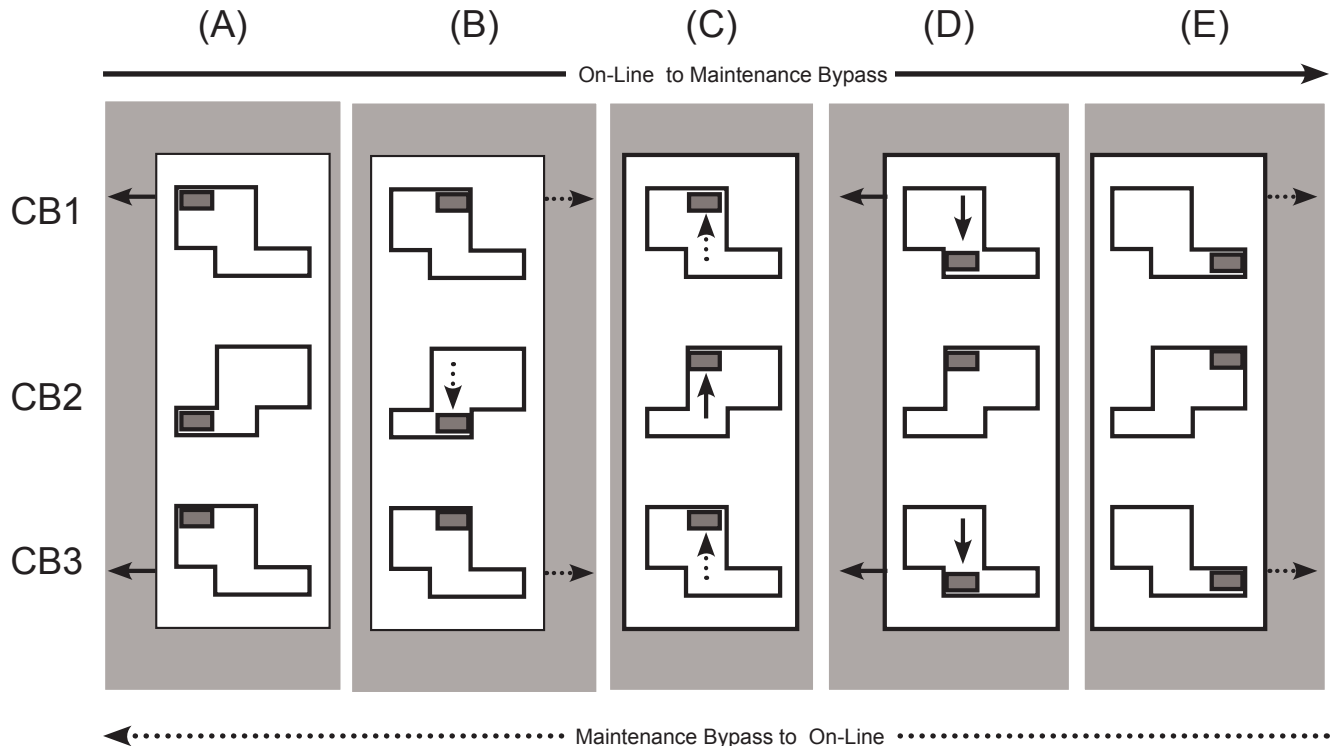

Figure 12-8 - MBS Mechanical Interlock Plate Operation
The 431M Mechanical Interlock Plate is locked in the On-Line position by a solenoid. When the UPS is placed in Static Bypass mode, the light on the front of the MBS lights and the interlock solenoid retracts and allows the Mechanical Interlock Plate to be moved. See Figure 12-8.
2. Slide the Mechanical Interlock Plate to the center position as shown in Figure 12-8 B.
3. Switch CB2 ON (up) as shown in Figure 12-8 C.
4. Switch CB3 OFF (down) and CB1 OFF (down), as shown in Figure 12-8 D.
5. Slide the mechanical Interlock Plate to the left position as shown in Figure 12-8 E.
1. The Maintenance Bypass position is shown in Figure 12-8 E. The UPS should be in static bypass mode, and the MBS indicator light should be illuminated.
2. Slide the mechanical Interlock Plate right to the Center position as shown in Figure 12-8 D.
3. Switch in order, CB1 ON (up), and CB3 ON (up) as shown in Figure 12-8 C.
4. Switch CB2 OFF (down), as shown in Figure 12-8 B.
5. Slide the mechanical Interlock Plate to the right position as shown in Figure 12-8 A.